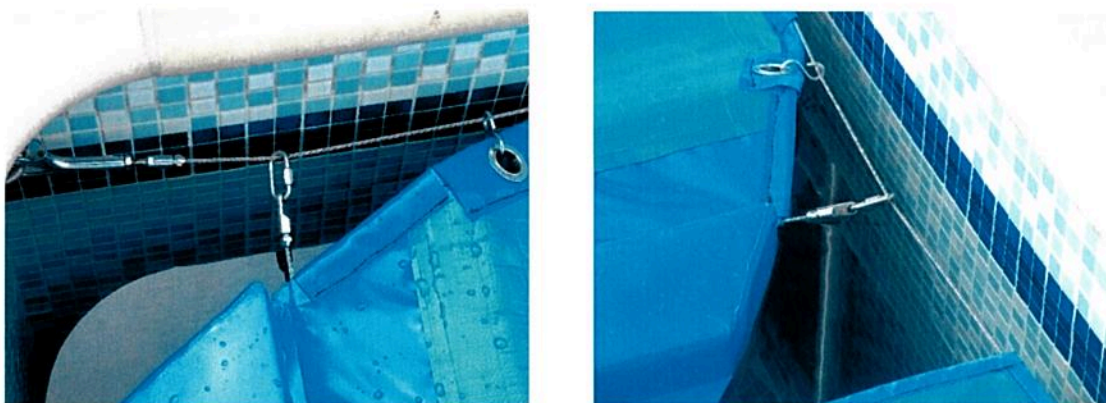

Figure 2
7. Finally with the two remaining Sta-Lok and link fixing sets, attach the sets to either end of the wire that runs parallel with the leading edge, (the wire shall need to be cut to suit) repeating the process in section 3. The Link can be attached directly to the wire. **See Figure 2.**